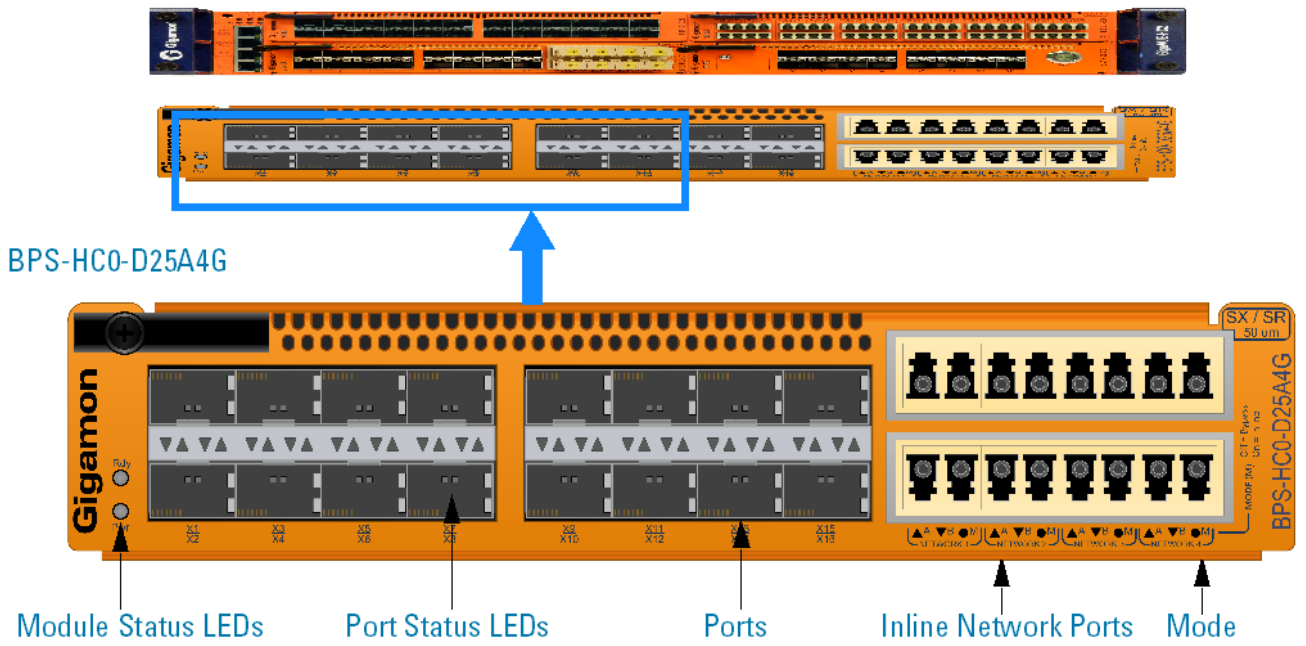

Figure 13 Bypass Combo Module BPS-HC0-D25A4G
- Bypass Combo Module with four SX/SR (50/125µm multimode) inline network port pairs and sixteen regular SFP+ port cages (BPS-HC0-D25A4G) (Figure 13 Bypass Combo Module BPS-HC0-D25A4G)